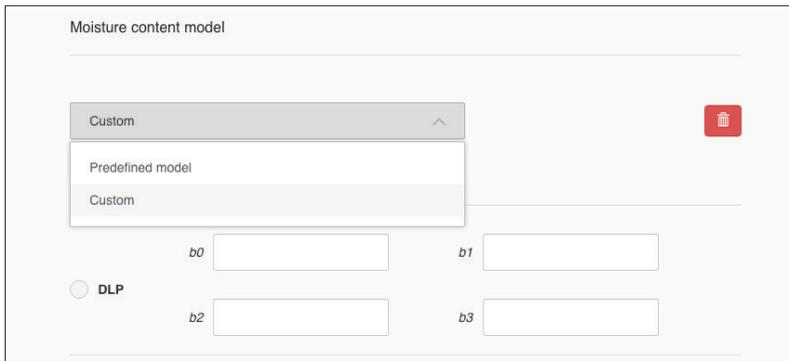

Figure 80 Custom model selection
- a. In the dropdown box below the Moisture Content Model heading, select the Custom model option (Figure 80).